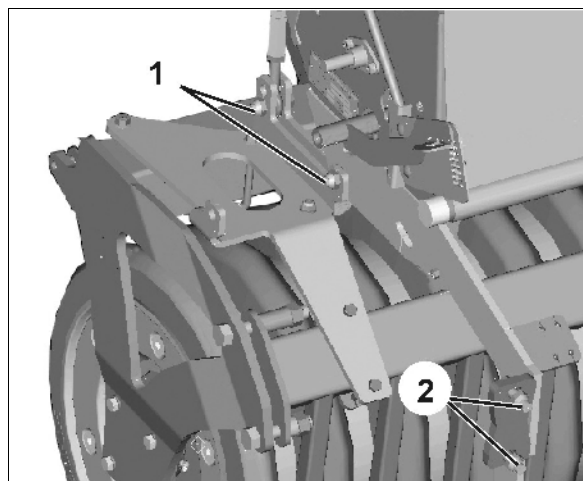

Fig. 26
- 5.1 Left: Install the 2 screw connections (Fig. 26/1).
(Fig. 26/2): Mounting point for harrow.